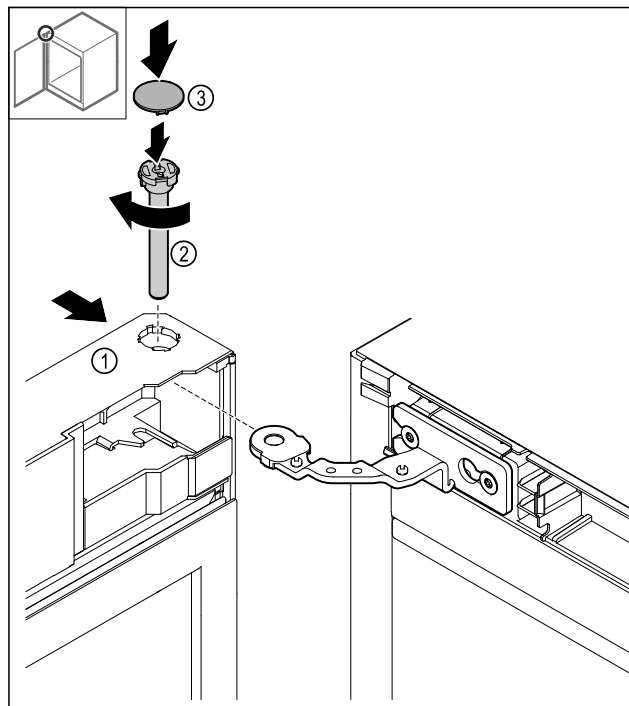

Fig. 50
- Slide the door Fig. 50 (1) onto the top hinge.
- Insert the bolt Fig. 50 (2) and turn it clockwise to tighten.
- Put on the cover Fig. 50 (3).